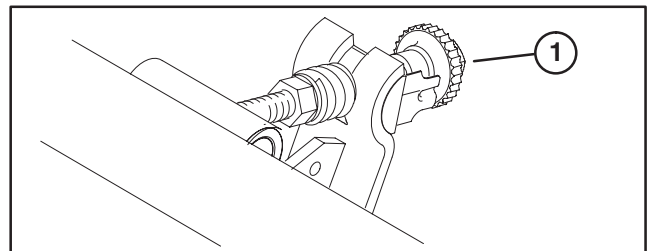

Figure 2
1. A 3/4 inch (19 mm) wrench will be needed to rotate bedknife adjustment knob. Each notch on the knob will move the bedknife .0005 inches (Fig. 2). Make sure reel contact is removed by rotating bedknife adjustment knob counterclockwise